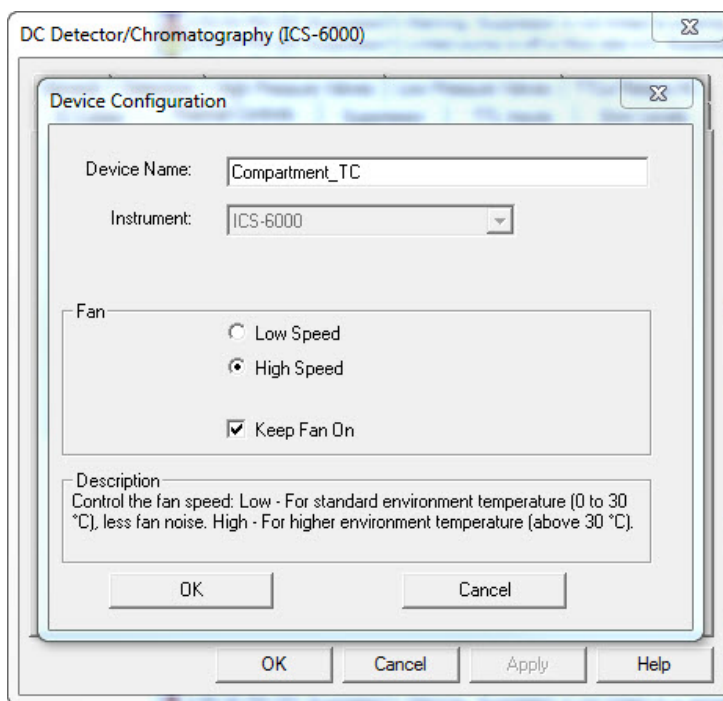

Figure 2-24. Setting the DC Upper Compartment Fan Speed
4. Under **Fan**, click **High Speed** (see Figure 2-24).